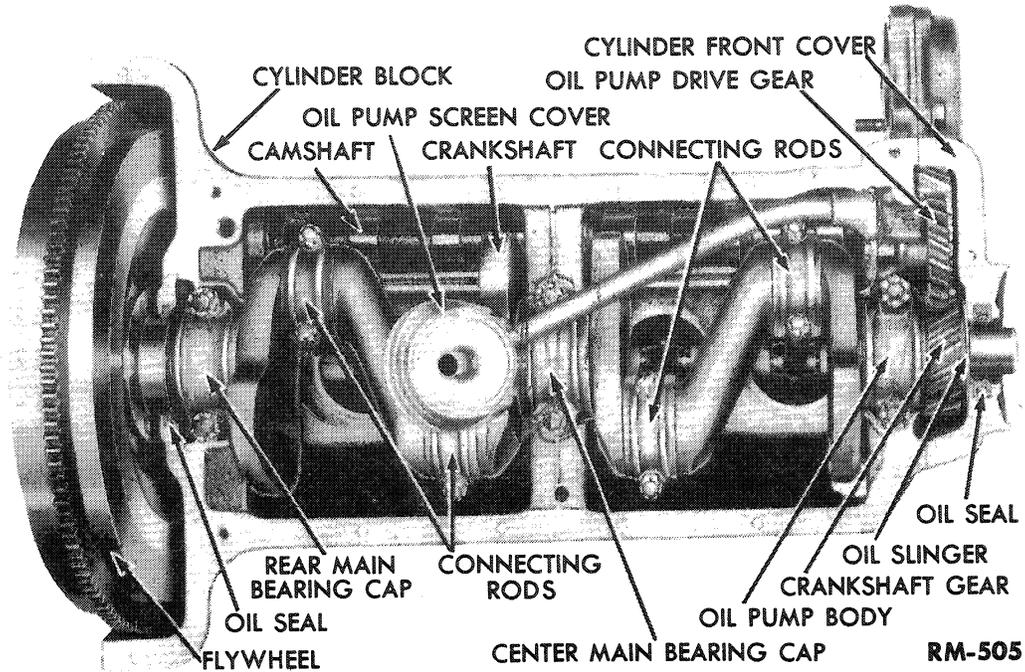

Fig. 6—Underside of Engine with Oil Pan Removed
g. Remove Oil Pump and Oil Pump Screen Cover Assembly. Remove the cap screws that secure the oil pan to the cylinder block, and remove the oil pan. Remove the lock wires and cap screws that secure the oil pump screen cover assembly to the oil pump (fig. 6). Remove the oil pump screen cover assembly from the engine.